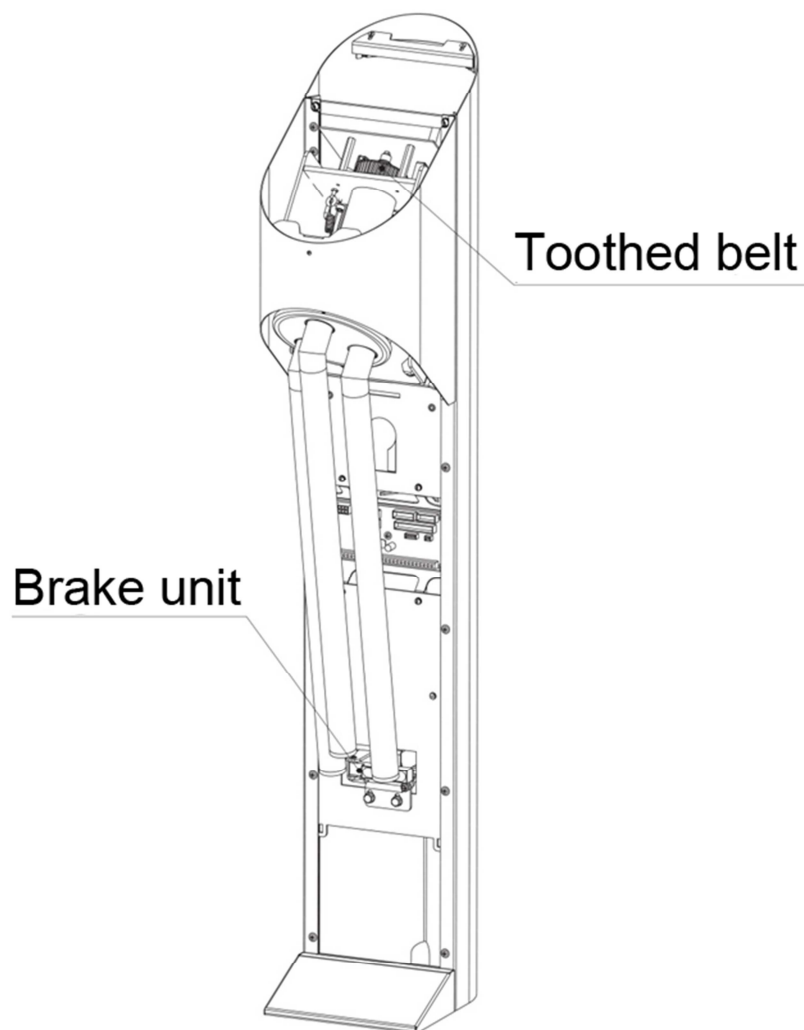

Fig. 11
- 4.4. Check the condition of the toothed belt and its tension (Fig. 11).
(Fig. 11).